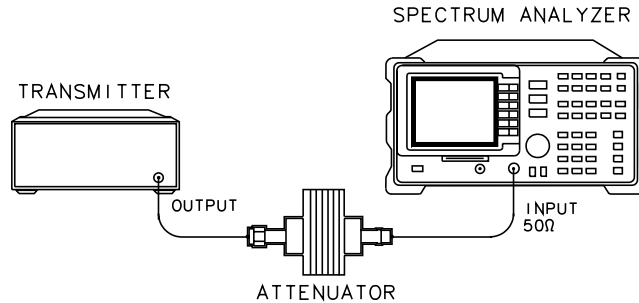

Figure 27 Test Setup for Initial Intermodulation Attenuation Measurement
- 2 Press **Intermod Atten**, then **TX BAND**. Refer to Figure 27 for the initial test setup. If a carrier is present, the spectrum analyzer measures the carrier to determine its peak power.